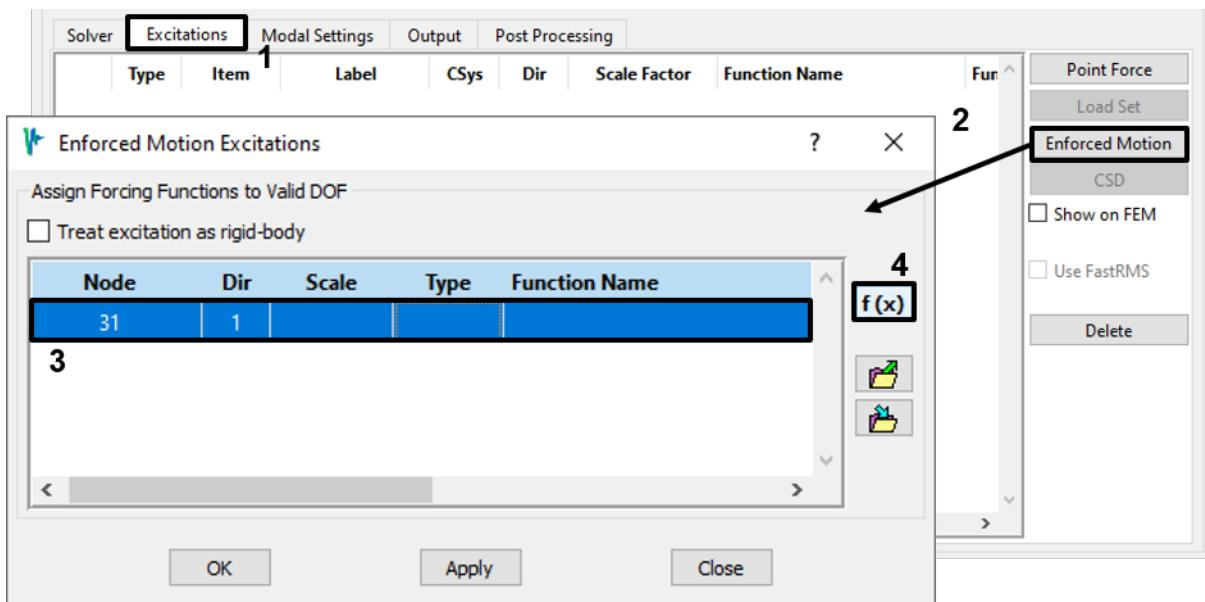

Figure 4-11. Create a new enforced motion excitation.
b. On the *Enforced Motion* dialog, select the one available DOF and assign an excitation function to it by clicking the **f(x)** button to bring up the Function Manager (Figure 4-11).